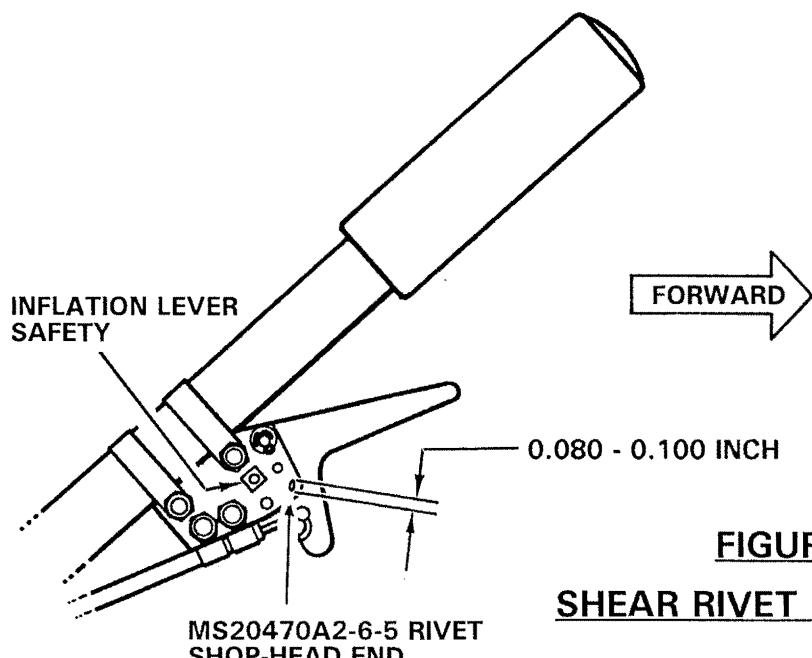

FIGURE 5-8
5. Using locking pliers or similar, flatten shop-head end of rivet per Figure 5-8.